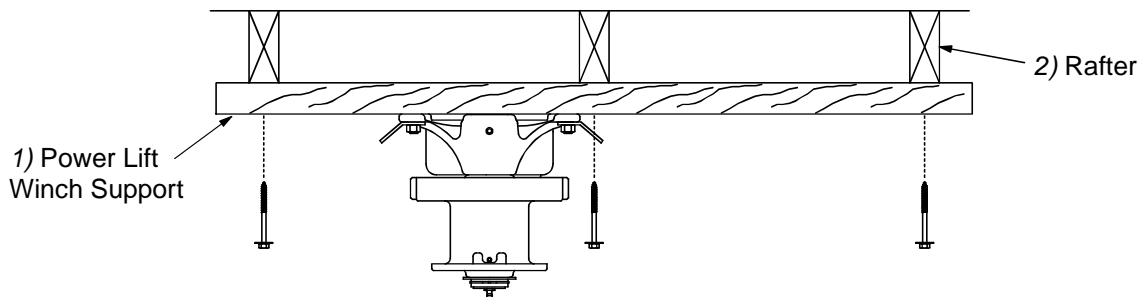

Figure 7. Mounting the Power Lift Winch and Support to the Rafters
- Attach the Power Lift Winch Support (with the Power Winch secured) to the ceiling at the center of the feeder line. See **Figure 7**. The Power Lift Winch Support must be parallel to the feeder line and must span at least 3 rafters in a wood frame house and 2 rafters in a steel frame house. If the hopper is located at the center of the feeder line, locate the Power Winch a few feet offset from the center of the feeder line. However, the Winch Drum must be directly in line with where the main cable is to be installed.